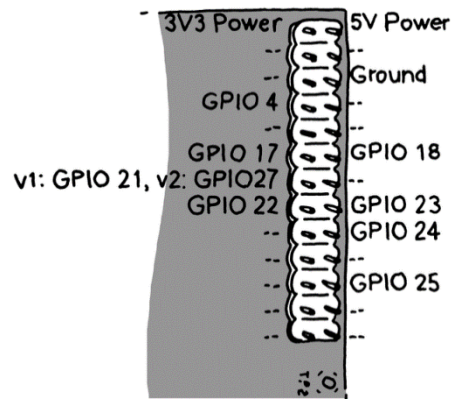

Figure Q4[b]
- [b] **Figure Q4[b] shows the GPIO pins on a Raspberry Pi microcontroller. A solenoid valve that controls a pneumatic cylinder is connected to pin 23 of the microcontroller. Two switches are connected to pin 4 and 17 of the microcontroller. Draw the electrical circuit showing the connections.**